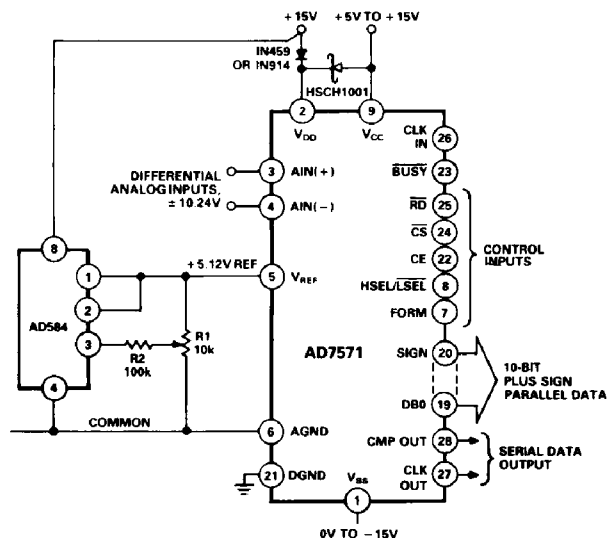

Figure 16. AD7571 Operational Diagram (see Table I for Pin Function Description)
6. **SUPPLY SEQUENCING:** Do not allow V_{CC} to exceed V_{DD} . In cases where V_{CC} could exceed V_{DD} , the diode protection scheme shown in Figure 16 is recommended.